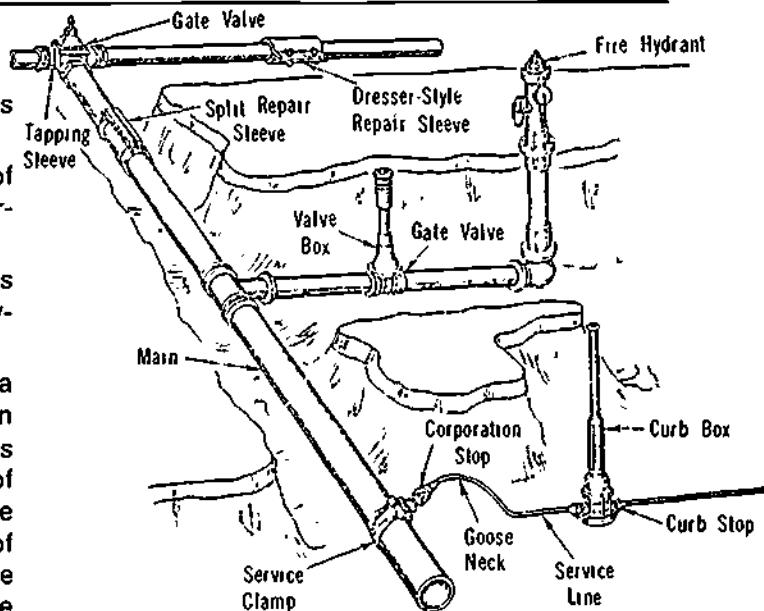

Figure 23-27. Clamps and Sleeves on Underground Water Mains
83. Illustrated in Figure 23-27 are two examples of clamps and sleeves being used to repair an underground water main.
b) Clamps or sleeves are made of several materials, including cast iron and stainless steel, and are used on plastic, steel, and asbestos cement and cast iron pipe. The types in general use for the repair of water mains are similar to those shown in Figure 23-27.